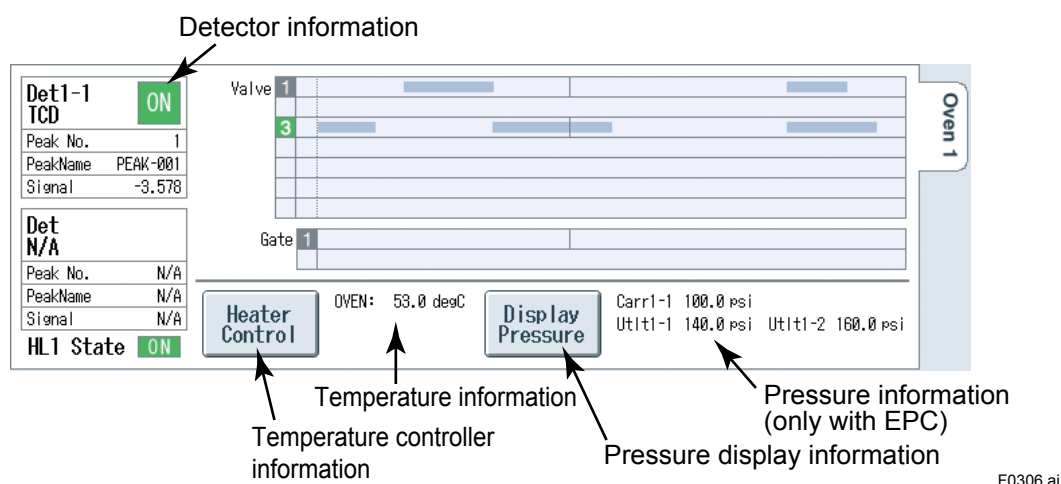

Figure 3.6 Example of Oven Information Display Area
- (3) The temperature information can be checked. Refer to figure 3.6.
- (1) The SYS tab with the detector to be checked is selected.
- (2) The detector information can be checked. Refer to figure 3.6.
- (3) When  is pressed, the following information are indicated
- (1) The SYS tab with the EPC to be checked is selected.
- (2) The pressure information can be checked. Refer to figure 3.6.
- (3) When  is pressed, the set pressure, present pressure, and EPC ON/OFF status of the Carrier n-n-1 to n-4 and Utility n-1 to n-4 are indicated.